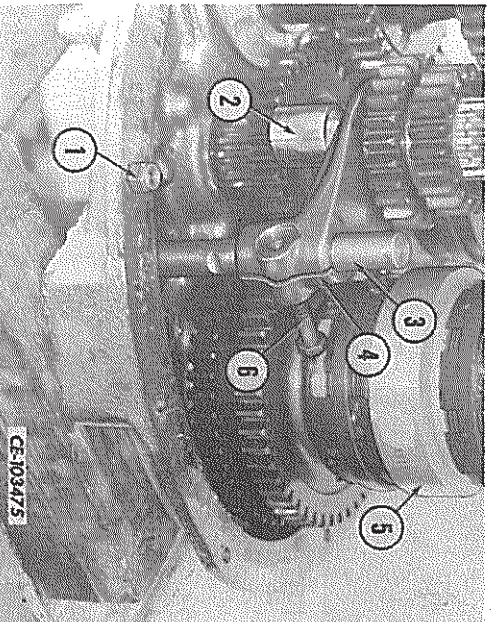

FIG. 26 — Removing the Hi-Lo Shifter Shaft
17. Remove the locknut (1, Fig. 26) from the hi-lo shifter shaft locking bolt. Raise the shaft and fork assembly until the locking bolt (6) is clear of the clutch shaft assembly (5) and maintain this position using a socket (2) under the fork (4). Tap the locking bolt out of the fork until it is clear of the shifter shaft (3) and pull the shaft out the bottom of the cover. Remove the fork with the locking bolt from the spline shaft.